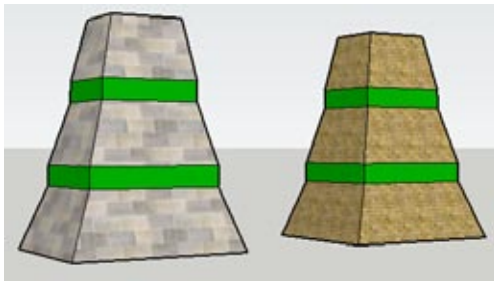

Figure 8-25
9. Close the group (activate Select and click outside the group). The other building remains unchanged (Figure 8-25).